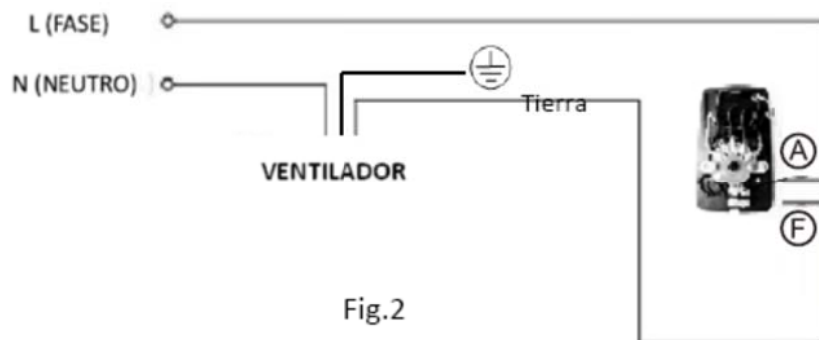

Fig.2
8. Make wiring connections with regulators as shown on fig.2.